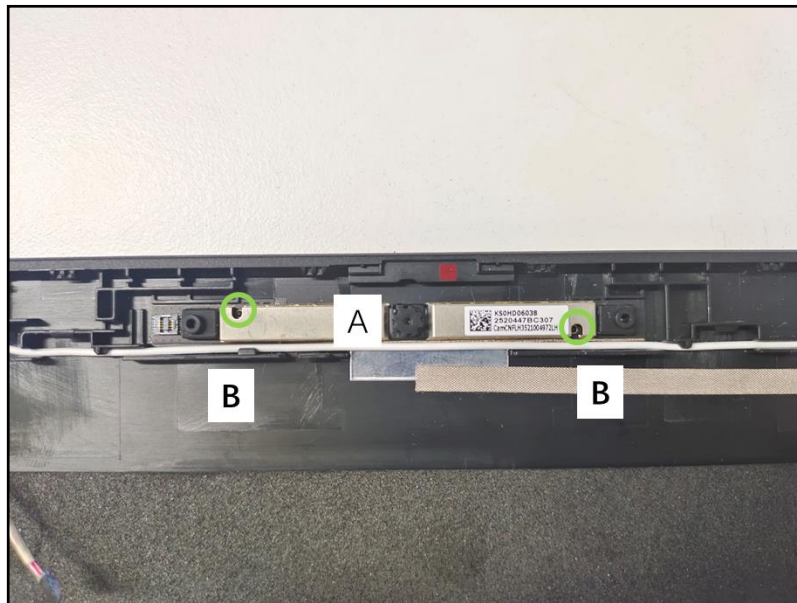

Figure 3-59. EDP Cable Removal
1. Lift the camera module (A) to release it from the guide pins (B) (Figure 3-59). Then remove the camera module from the LCD bezel.